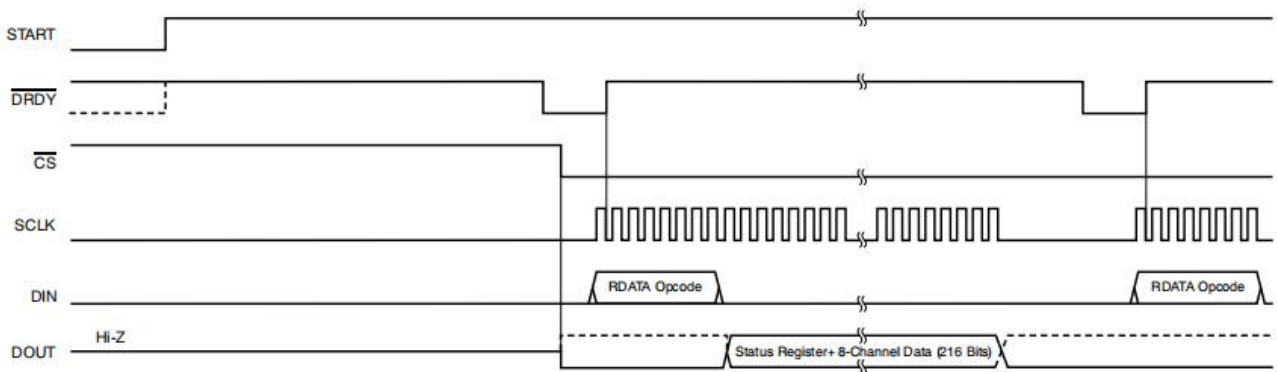

Figure 9.5.3 Usage of RDATA command
(8) SDATAC: Stop Reading Data Continuously The SDATAC command cancels the continuous read data mode. This command has no SCLK rate limit, but the next command must wait for 4 tCLK cycles before completion. (9) RDATA: Read Data When not in continuous read data mode, the RDATA command loads the latest data into the output shift register. Issue this command after DRDY_ goes low to read the conversion result. This command has no SCLK rate limit, and no waiting time is required for subsequent commands or data read SCLKs. To read data from the chip after issuing the RDATA command, ensure that the START pin is high or issue a START command. When using the RDATA command to read data, the read operation can overlap with the next DRDY_ without corrupting the data. Figure 9.5.3 illustrates the usage of the RDATA command.